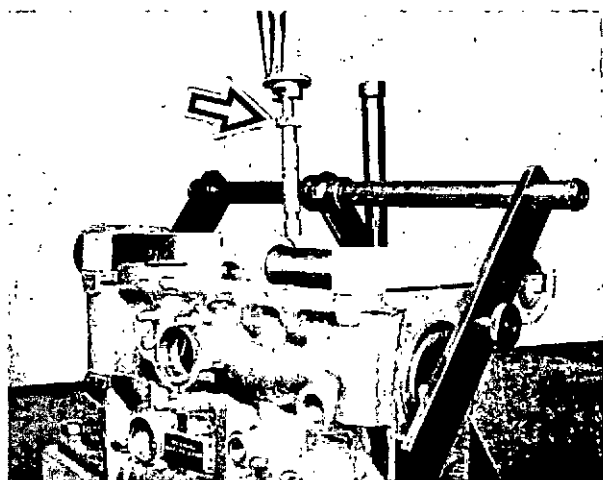

Fig. 35 Fitting plunger and lower plate.
- (a) Fit the lower spring plate to its plunger and insert the assembly into its barrel (see fig. 35) with the line on the plunger towards the rack, as indicated by the arrow.